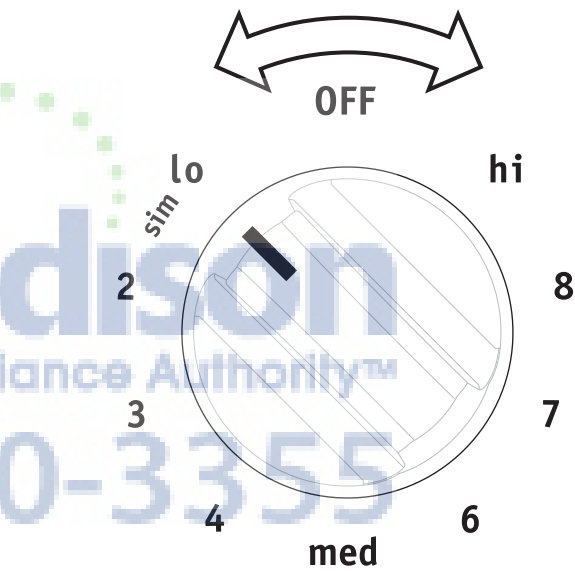

Figure 4: Control knob operation
2. Push in and turn the surface control knob in either direction to the desired setting. Start most surface cooking on a higher setting and then turn to a lower setting to finish. The surface control knobs do not have to be set exactly on a particular spot. Use the graphics provided as a guide and adjust the control knob as needed (See Figure 4). Each surface element provides a constant amount of heat at each setting. For more information, see the suggested surface element settings in Table 1.